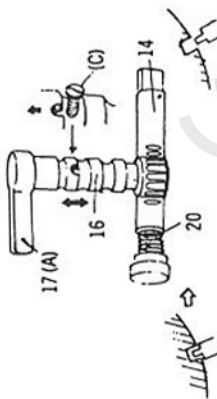

Fig. 7
4. In the indexing procedures, first lay down the clamp handle 7 to the left, unclamp the table, pull the pinion handle 17 toward yourself, and remove the index pin 14 from its position (groove). Then press the handle 17 downward (Figure 7 on Page 4).